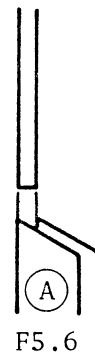

Fig. 12
4. Tip of the arm (A) should be within the F5-6 line width. (Fig. 12)